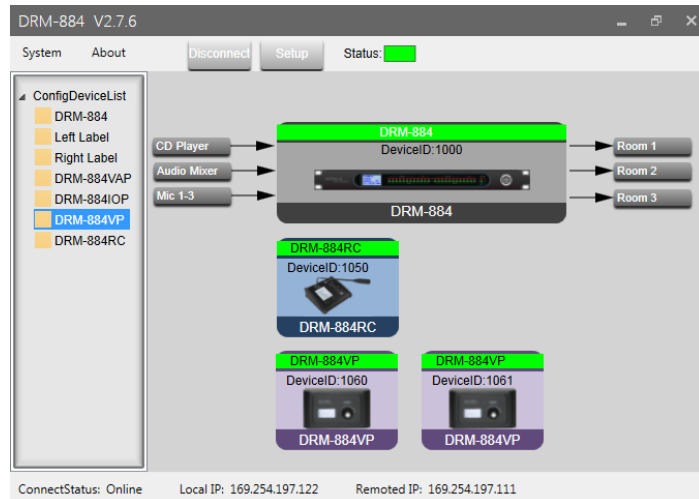

Fig. 15 System Configuration (Daisy Chain Network Mode)
In the "Daisy Chain Network Mode", the constellation of the devices used can be shown. To do this, drag the names of the devices used from the "Config Device List" and drop them in the area on the right (fig. 15). The device is shown as a block which can be placed as desired by means of the mouse. The block contains the device name, the device ID, the type name of the device and a picture. The device name is identical to the type name at first, but it can be changed individually.
To connect the program to the devices, click the button "Connect". (Figure 15 shows an example where the connection has already been made. This is why the option "Disconnect" is shown instead of "Connect".) When the message "Remote device ip is empty or invalid" appears, search for the connection: Click "Setup". The following window will appear:
- 4) In the window with the device constellation displayed (fig. 15), click "Connect".
After starting the program in the "Star Network Mode" or after double-clicking the block of DRM-884 in the view of the device constellation in the "Daisy Chain Mode" (fig. 15), the settings of a DRM-884 connected will be loaded to the computer and shown in the view "Input DSP Channel". To change the view, click the buttons at the top. A change of settings on the screen will directly affect signal processing of DRM-884.